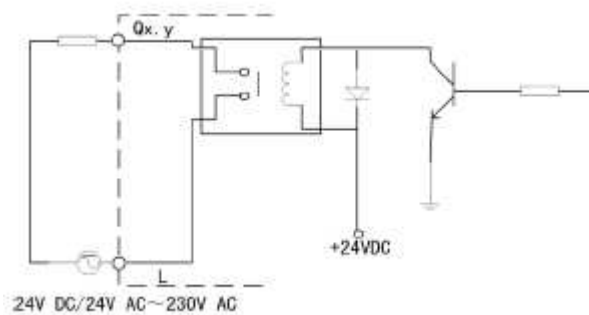

Figure 3-1-10 LM3222 Output Channel (DO) Equivalent Circuit
- Output channel (DO) equivalent circuit is shown in Figure 3-1-10.